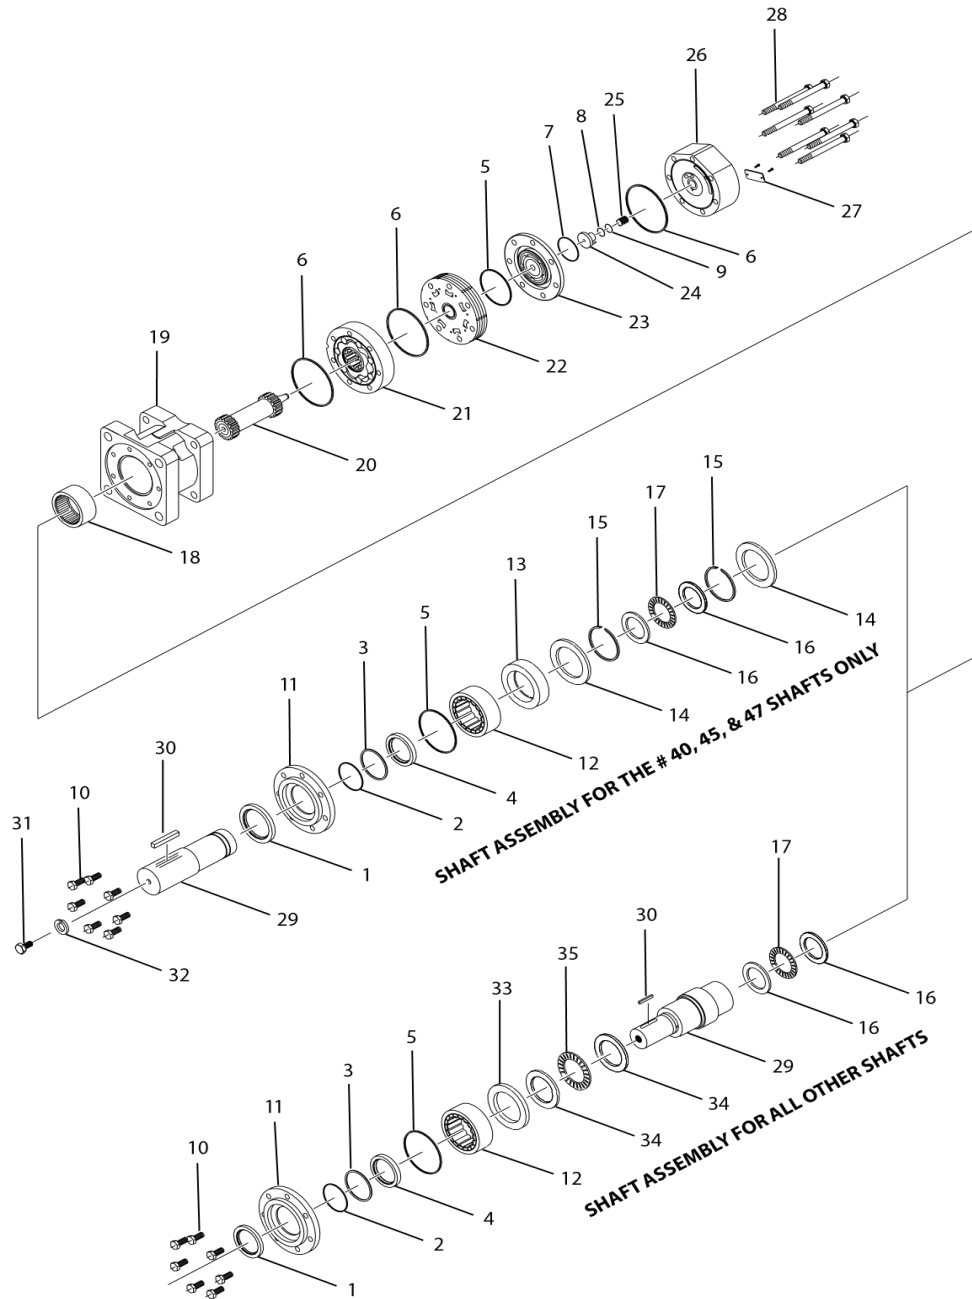

Figure 1: DT 700 Exploded View
- a) Using *Figure 1* as a reference, use a seal driver to install dust seal (1) into pilot ring making sure lip on seal faces up.
- b) Turn pilot ring (11) over.
- f) After determining which metal backup shim (2) to use, install in the groove in the pilot ring (11).
- g) Place backup seal (3) into pilot ring (11) making sure lip on seal faces up.
- h) Using a seal driver, install shaft seal (4) into pilot ring (11).
- i) Place a high pressure seal (5) into the groove in the front of the housing (19).